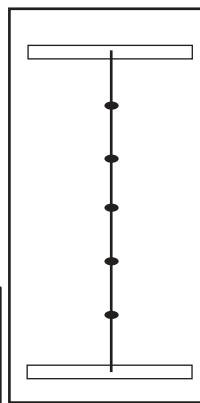

Fig. 1
2. Insert three 2" x 6" x 23½" standard steps into the remaining holes until they are flush with the outside of the side rail. (Fig. 1)
1. Align top of Climbing Wall at right angle 90°. Lip of climbing wall should rest on the 2" x 4" mounted 12" below the play deck 1½". Using the Climbing Wall as a template, mark play deck through the three holes in the climbing wall. Drill three ⅛" holes at marked locations. **(Fig. 1)**
1. Tie five knots, equally spaced, for climbing grips. (Fig. 1)